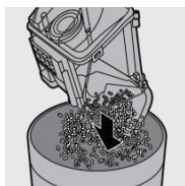

Figure 27
5. Throw the garbage out of the dust container into the trash can (Figure 27).